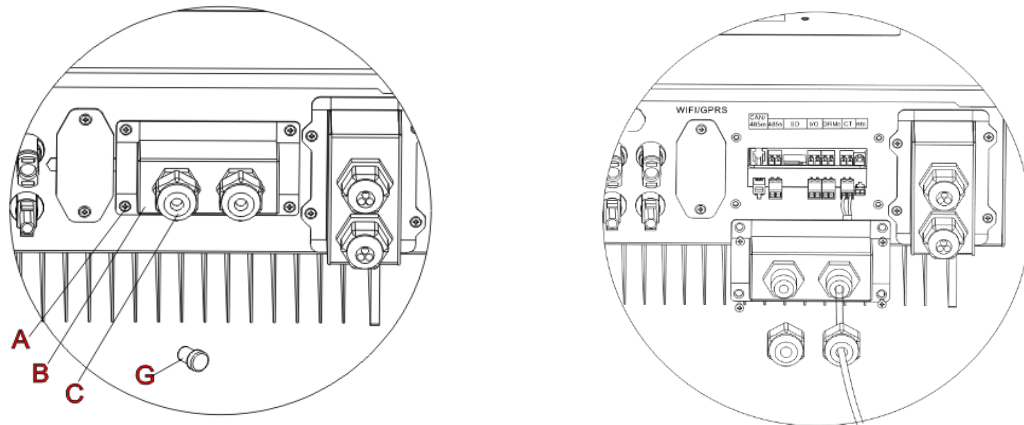

Fig. 12 CT / CAN / RS485 / NTC connection
**Step 3:** Loosen 4 screws (part A) using a screwdriver (Fig. 12)